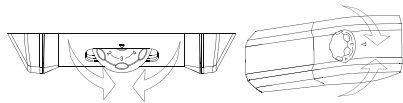

Fig.5
• The temperature adjustment of both compartments is effected by rotating the thermostat knob (fig. 5).